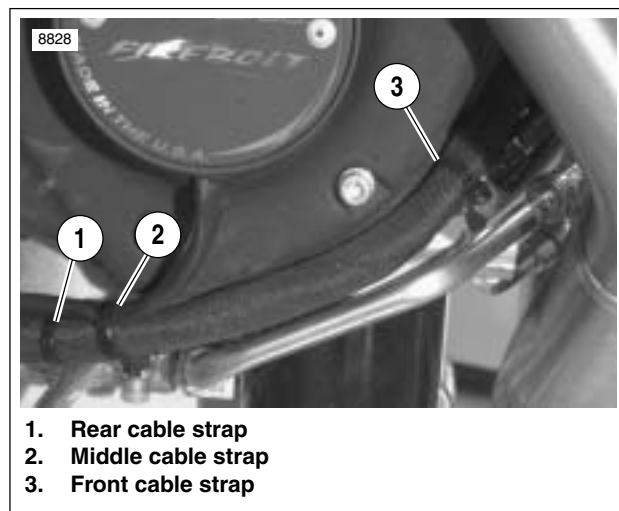

Figure 7-80. Cable Straps
11. See Figure 7-80. Install cable straps:
- a. Front cable strap (3) secures voltage regulator and oil pressure switch wiring.
- b. Middle cable strap (2) secures voltage regulator, oil pressure switch and cam position sensor wiring.
- c. Rear cable strap (1) secures conduit to voltage regulator wiring.